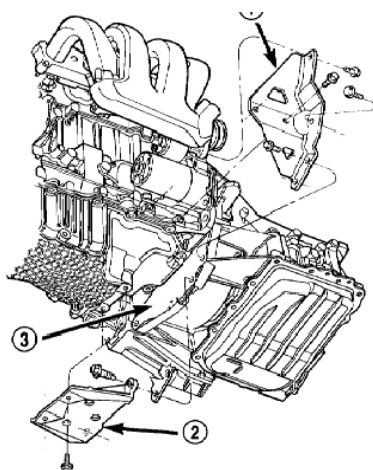

Figure 3-30 Left horizontal curved bar and structure ring — typical
(12) Screw off transaxle fuel drain plug and discharge the fuel into proper container.
(13) Remove the two axle shafts. As for correct process, see differential and transmission system in three groups.
(14) Remove structure ring (Figure 3-30).
- (15) Take down the horizontal curved bar for left engine and transmission (Figure 3-30).
- (16) Remove the duct cap of outer race (Figure 3-30).